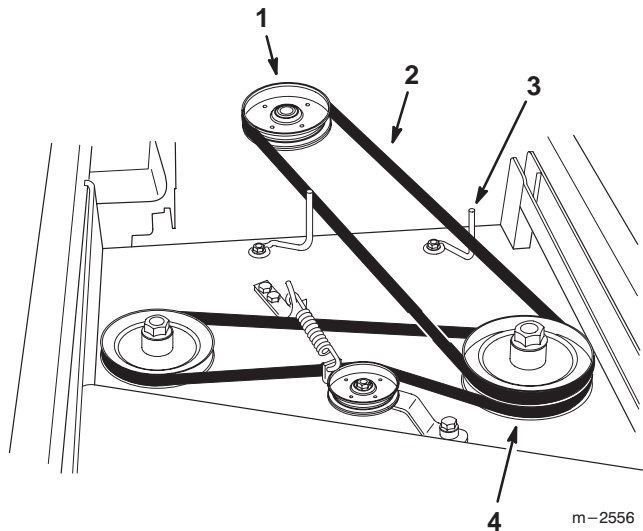

Figure 25
4. Remove the worn drive belt (Fig. 25).
5. Install the new drive belt onto the traction unit drive pulley and the top groove of the left spindle pulley (Fig. 25).